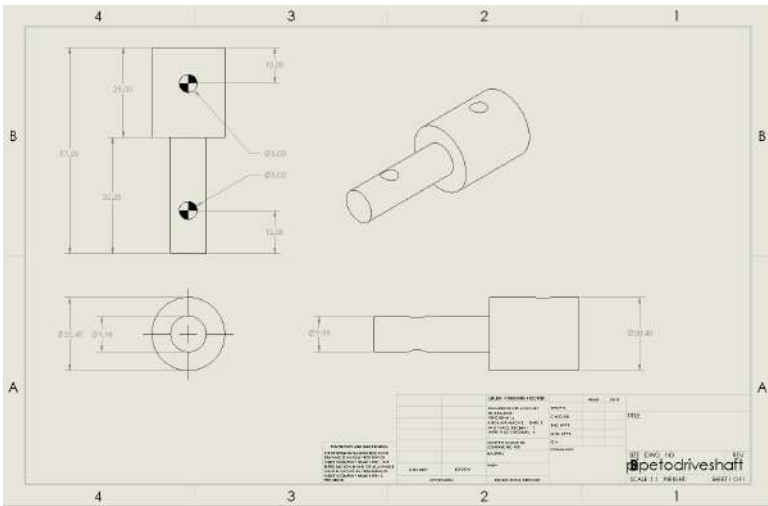

Figure 10: Gearbox to Driveshaft Adapter
4. Using a 5mm bit, on the mill drill two holes in the adapter in the locations illustrated in figure 10.